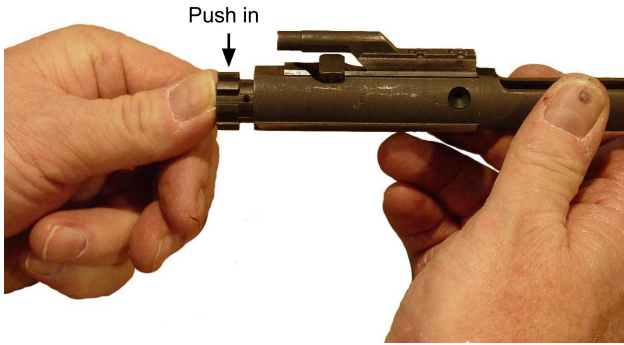

Figure 3-10. Bolt Assembly to Locked Position
- (2) Push bolt assembly to locked position. Refer to Figure 3-10.